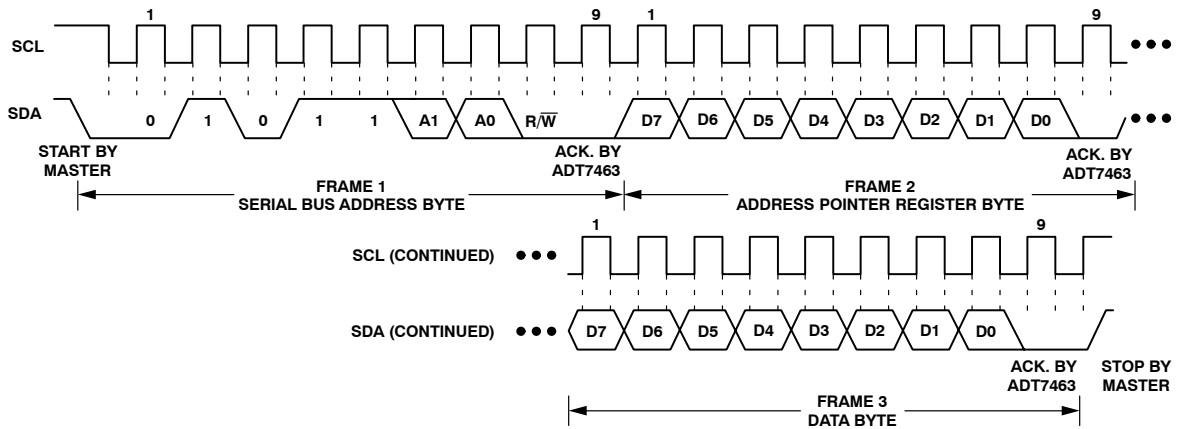

Figure 17. Writing a Register Address to the Address Pointer Register, then Writing Data to the Selected Register
This is illustrated in Figure 17. The device address is sent over the bus followed by $\overline{R/\overline{W}}$ being set to 0. This is followed by two data bytes. The first data byte is the address of the internal data register to be written to, which is stored in the address pointer register. The second data byte is the data to be written to the internal data register.
2. In Figures 17 to 19, the serial bus address is shown as the default value 01011(A1)(A0), where A1 and A0 are set by the address select mode function previously defined.